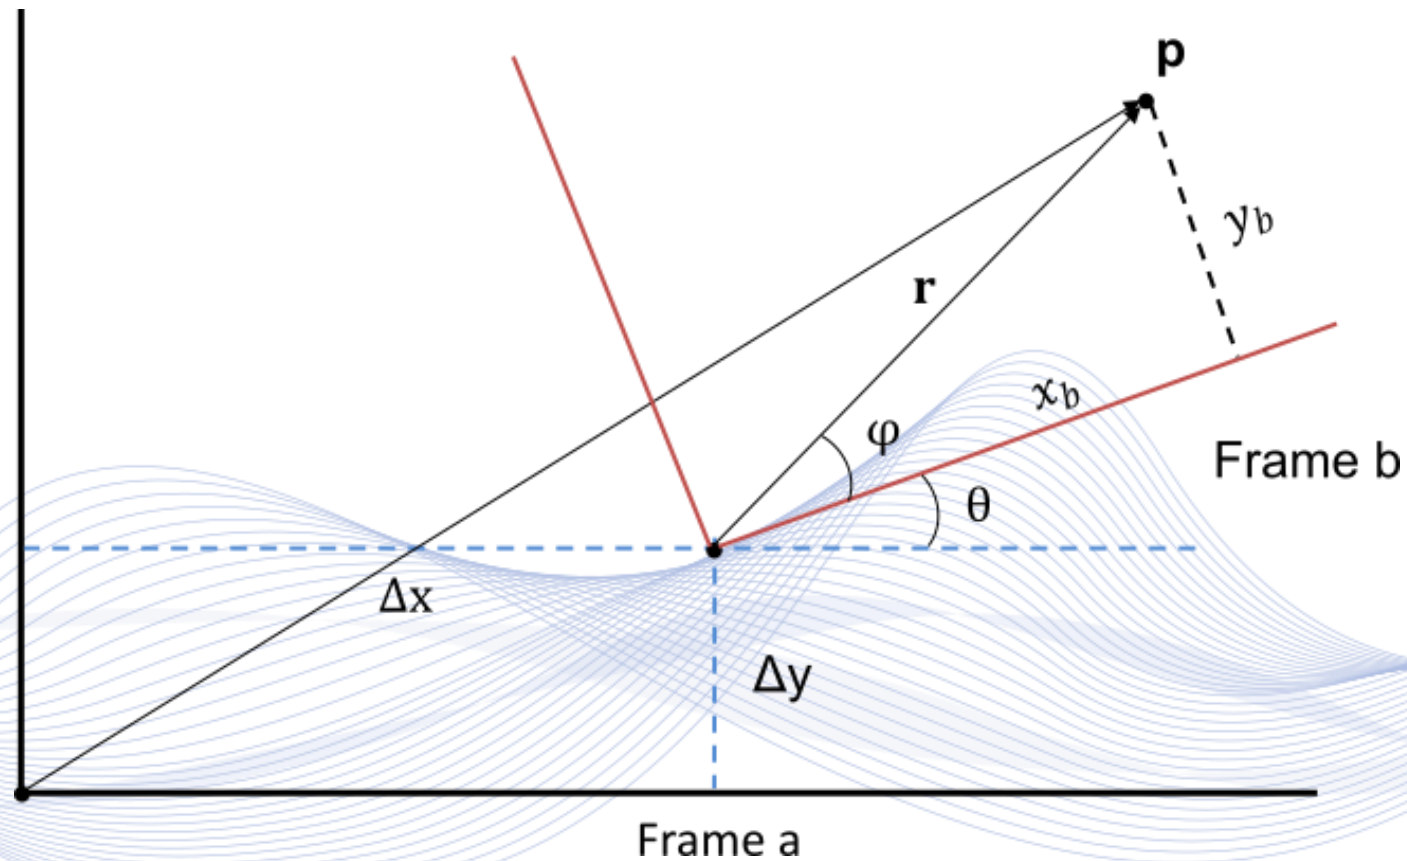

Fig 7: *Rotating and Translating A Coordinate frame*
- In **Fig 7 (b)** we have the rotated CF by θ degrees.